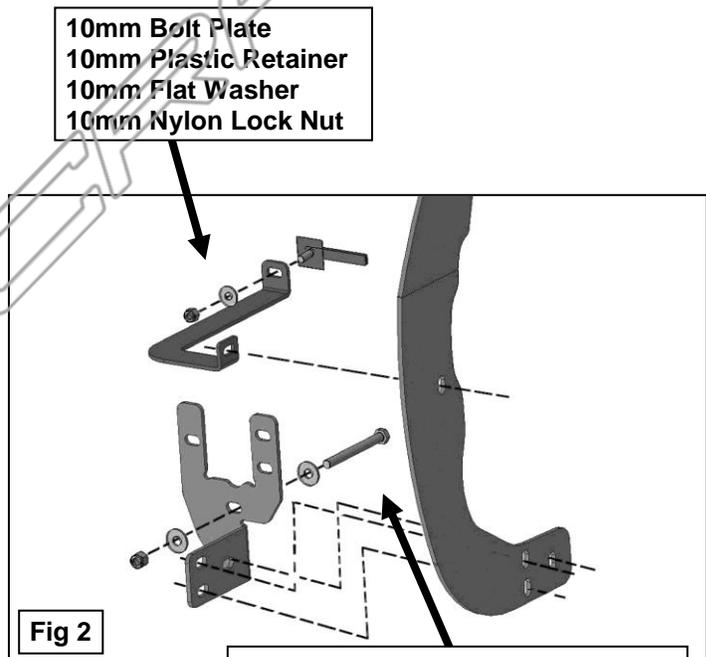

Fig 2
- Open the hood on the vehicle. Locate the factory hole on each side of the front of the radiator support crossmember behind the grille insert, **(Bumper removed for instruction purposes ONLY-Figure 6)**. **NOTE: DO NOT remove bumper.** Select (1) 10mm Bolt Plate. Insert the Bolt Plate through the back of the crossmember and through the hole in the front of the crossmember. Thread (1) 10mm Plastic Retainer to hold the Bolt Plate in place, **(Figures 2 & 6 - 9)**.
- Slide the driver side Support Bracket through the plastic grille opening and attach it to the previously inserted Bolt Plate and Plastic Retainer using the included (1) 10mm Flat Washer and (1) 10mm Nylon Lock Hex Nut, **(Figure 2 & 7)**. Do not tighten hardware. Repeat this Step for passenger side Support Bracket installation, **(Figure 8)**.